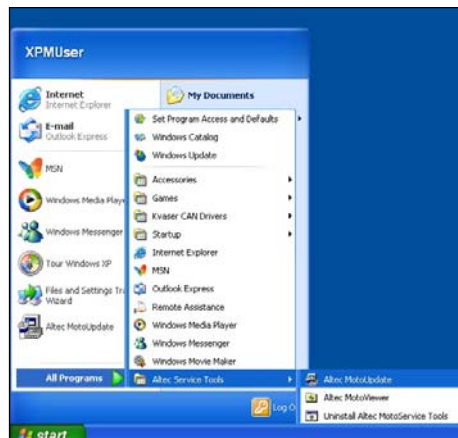

Figure 7 — Beginning The Update
1. On the computer, open up Altec MotoUpdate. This can usually be found by going to Start Menu->All Programs->Altec Service Tools->**Altec MotoUpdate** (refer to Figure 7). Make sure it is the Update, and not the Viewer.